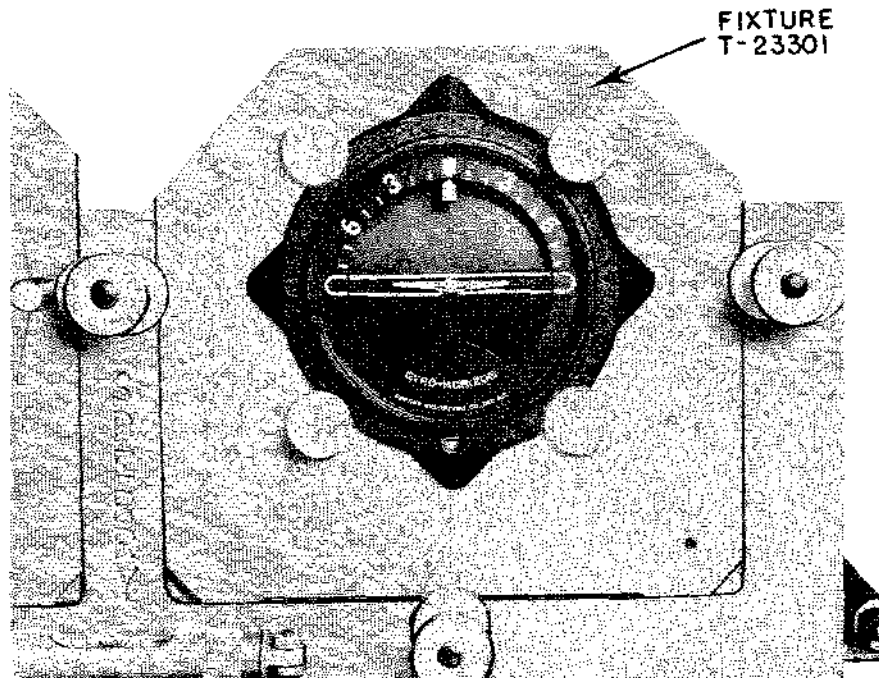

FIGURE 50 THE INSTRUMENT IN FIXTURE T-23301 READY FOR FINAL CALIBRATION
1. Place instrument in calibrating fixture, T-23301, in level, operating position, and connect to vacuum line, attaching tubing to one of the fittings at rear cover of case. The other fittings must be plugged. Run the gyro at least five minutes, with vacuum equal to 3-1/2" of mercury. (See Fig. 50.)